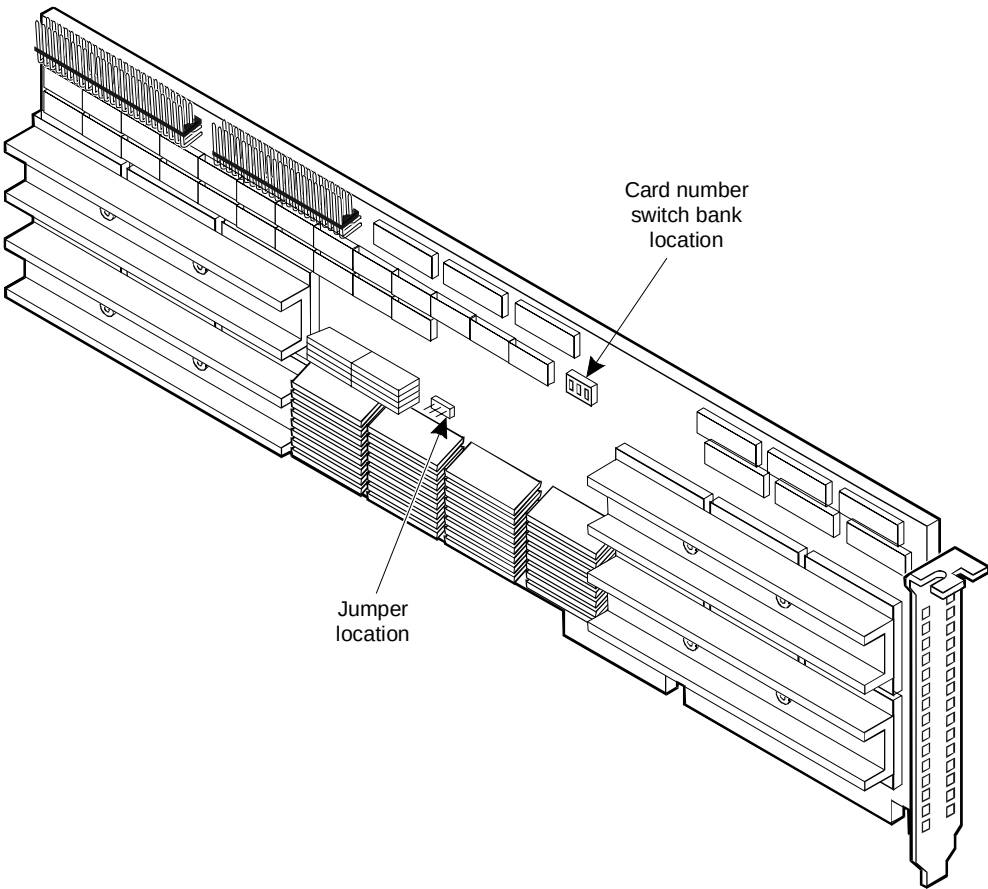

Figure 5-23. Companion Circuit Card
The Companion (CMP) circuit card (Figure 5-23) is an extension of the SP circuit card and is connected by its own special bus. The CMP card gets only power from the backplane. All the signal interfaces come from the SP card. If only one CMP card is attached to an SP, it must be located in the slot next to the SP. There cannot be an empty slot between the SP and the CMP. Up to eight (8) CMP cards are supported.